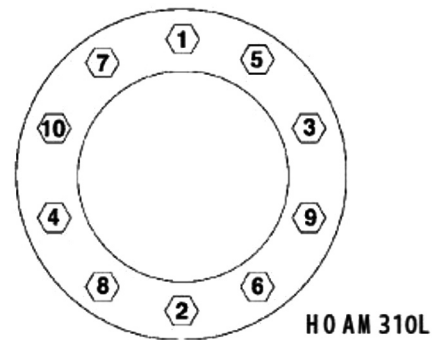

Fig 19
6. When you tighten the wheel nuts, refer to the pattern shown in Fig.19. Tighten the nuts to the specified torque (tightening torque: 600-650N.m and coat tightening glue on the mounting bolts)